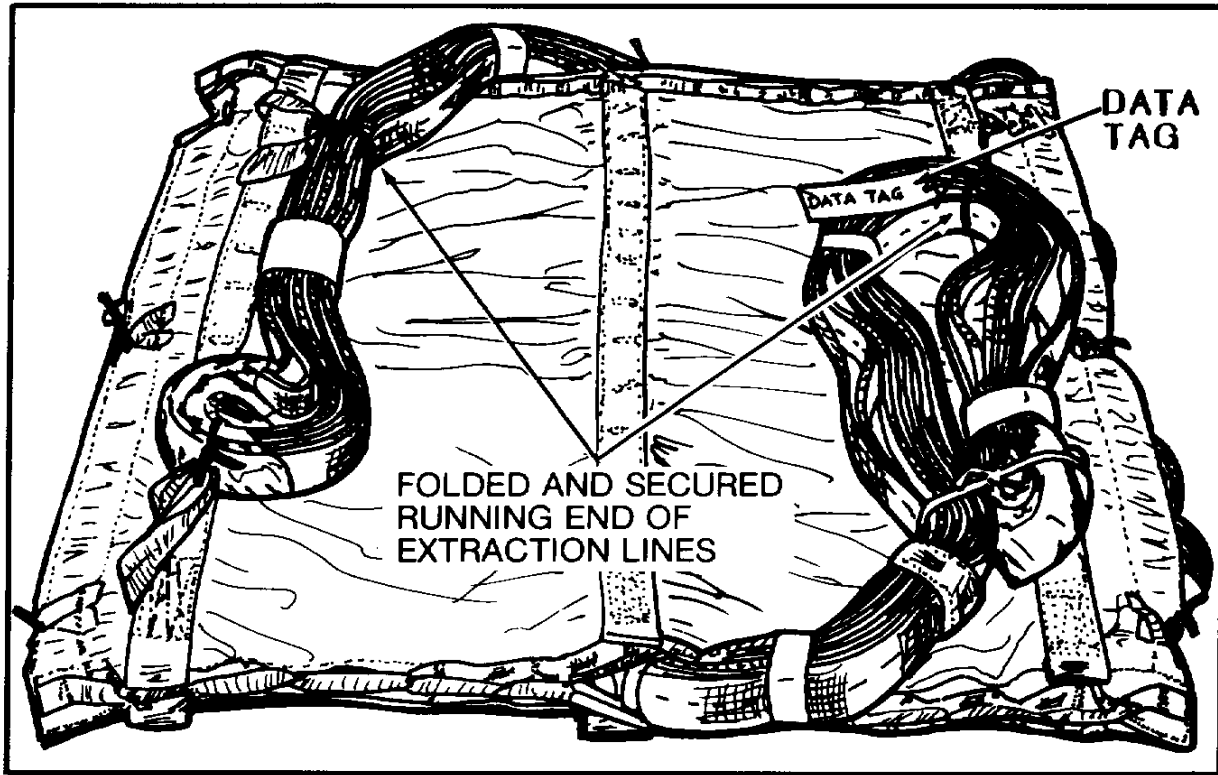

Figure 8. Extraction Line Running Ends Secured to Panel.
- g. Fold and secure running ends of extraction line to carrying handles using ¼-inch wide type I webbing (figure 8).